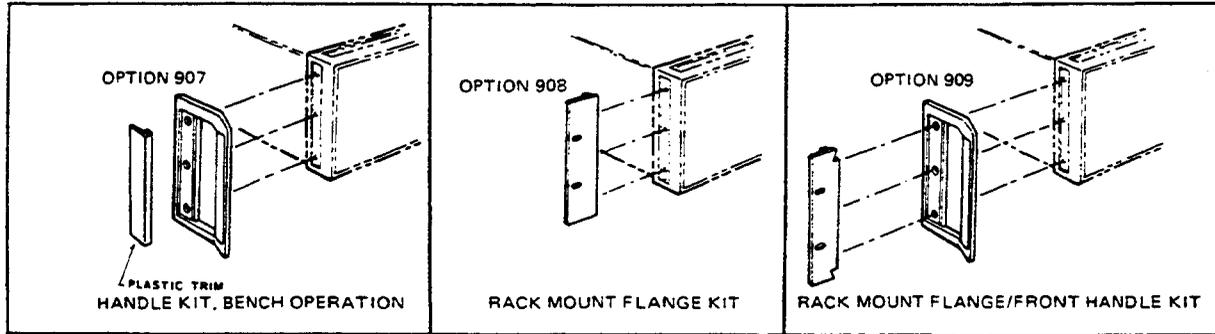

Figure 2-2. Rack Mount and Handle Kits.
- a. Remove the plastic trim (Figure 2-2) and front handles from the 3585 if it is so equipped.